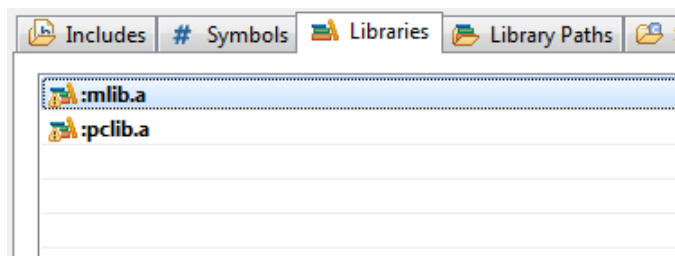

Figure 1-22. Libraries
9. After adding the library paths, add the library files. Click the Libraries tab. See Figure 1-22.
14. Click OK, and you will see the added in the list. See Figure 1-22.